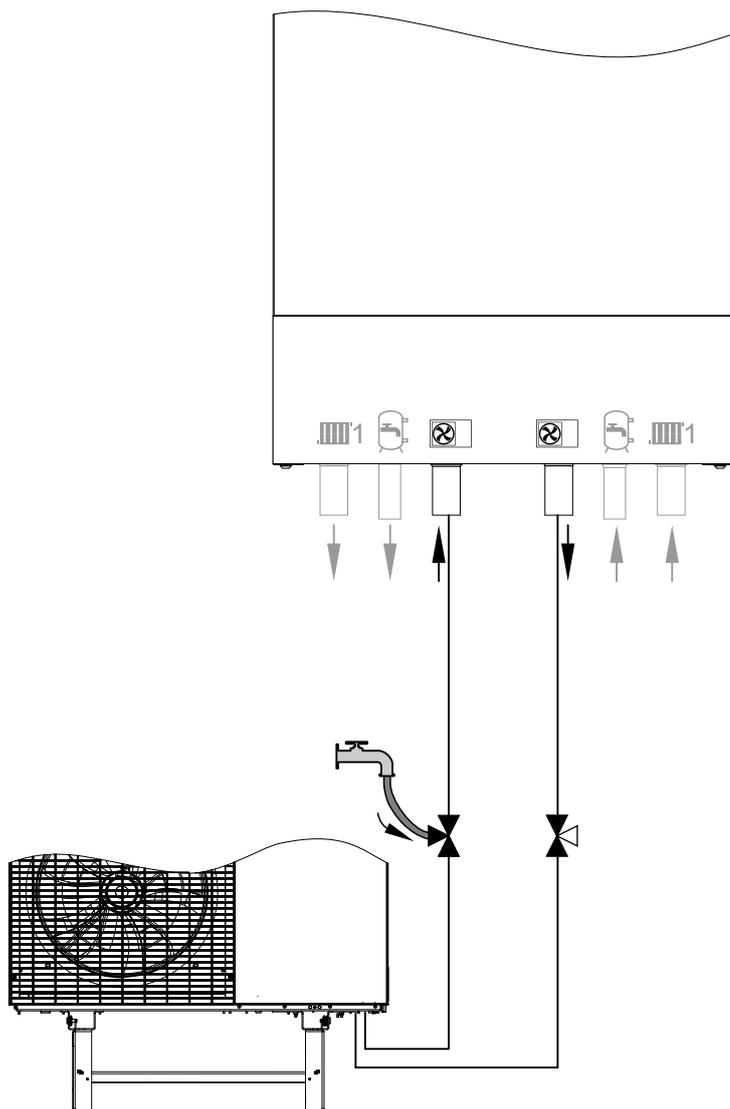

Fig. 57
2. Open the 3-way ball valve in the outdoor unit flow (indoor unit heating water inlet) as shown in Fig. 57: **Open in all directions**
3. Open the flow between the indoor and outdoor units via the 3-way ball valve in the outdoor unit return: See Fig. 57.